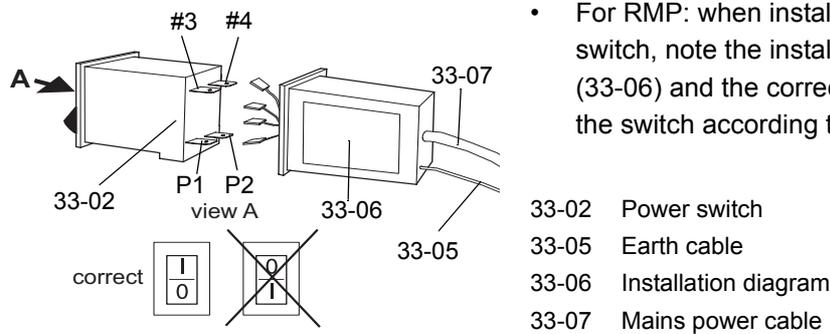

Figure 6-18 Power switch for RMP
- Unscrew the earth cable (33-05) from instrument frame and disconnect the mains power cable from the power switch (see Figure 6-18, 'Power switch for RMP').